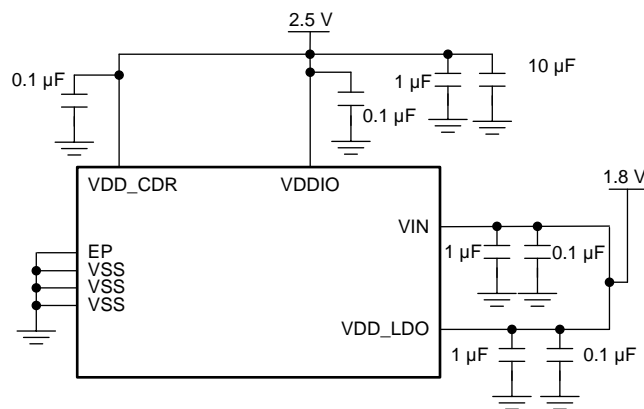

图 40. Typical Connection for Dual 2.5 V and 1.8 V Supply
- **Dual Supply Mode (2.5 V and 1.8 V):** This mode provides lower power consumption. In this mode, 1.8 V is connected to both VIN and VDD\_LDO. VDD\_CDR, and VDDIO are powered from a 2.5 V supply. See Figure 40 for more details.